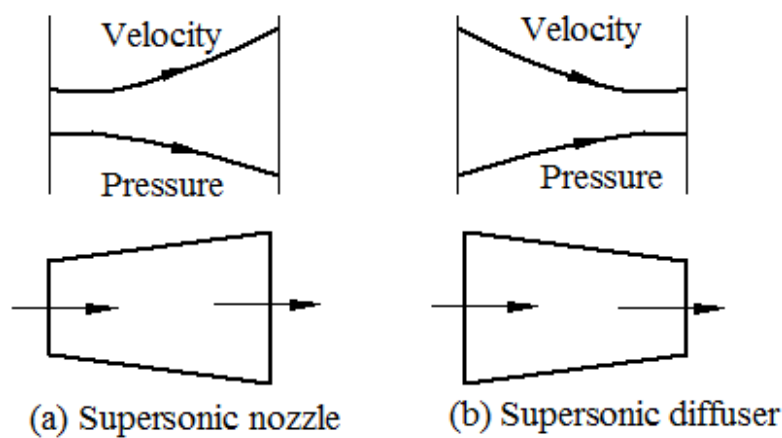

Fig. 2.2 Supersonic nozzle and diffuser
**For supersonic flow ( $M > 1$ )** the quantity  $\left(\frac{1-M^2}{\gamma M^2}\right)$  is negative. In the nozzle pressure decreases, so the quantity  $\frac{dp}{p}$  is negative; therefore from equation (2.2) the quantity  $\frac{dA}{A}$  is positive and hence area must increase for supersonic nozzle in the direction of fluid flow. The shape of the supersonic nozzle (divergent nozzle) is as shown in figure 2.2.
In the diffuser pressure increases, so the quantity  $\frac{dp}{p}$  is positive; therefore from equation (2.2) the quantity  $\frac{dA}{A}$  is negative and hence area must decrease for supersonic diffuser in the direction of fluid flow. The shape of the supersonic diffuser (convergent diffuser) is as shown in figure 2.2.